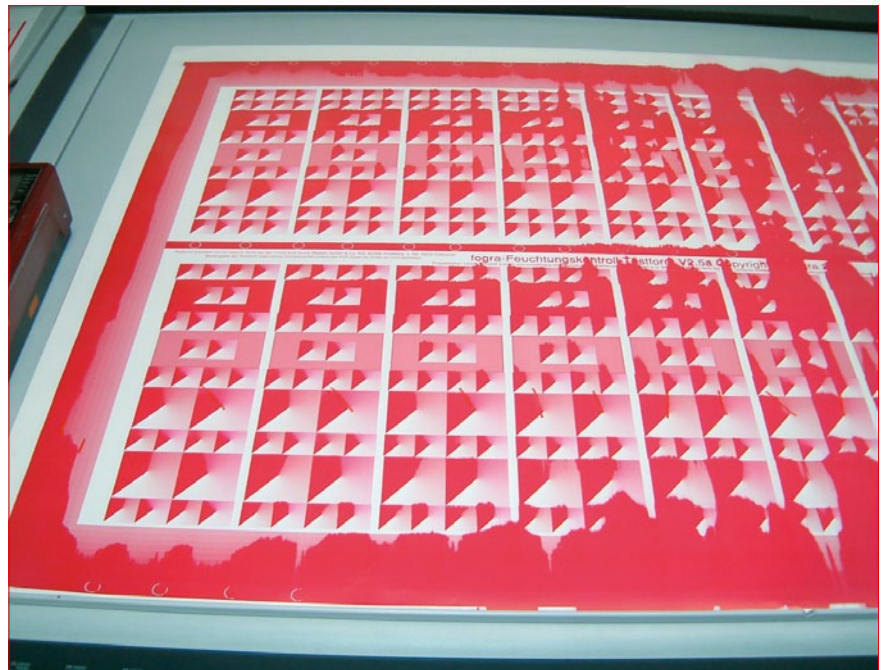
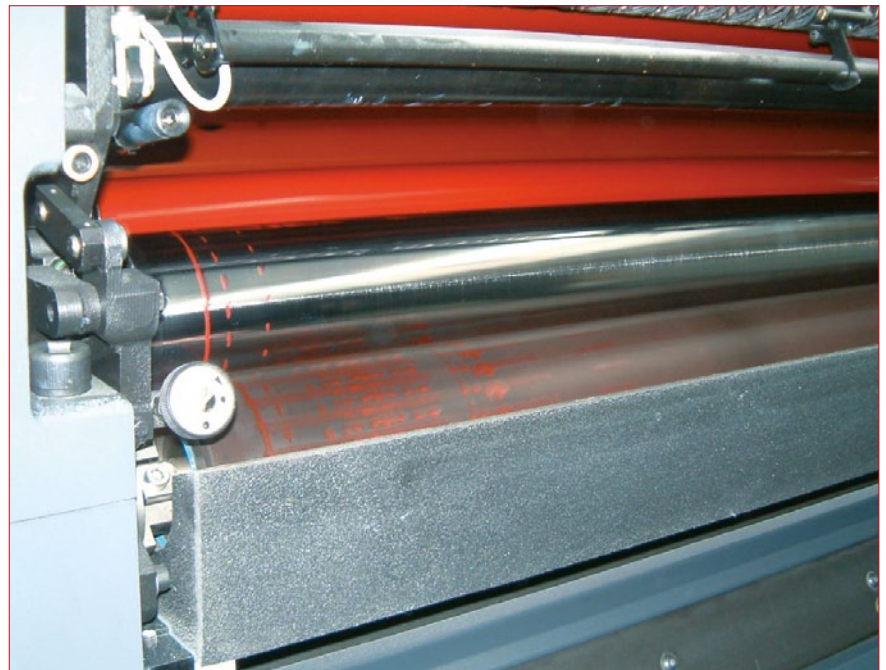

Fig. 5: Uneven toning with reduced fountain flow caused by the defective fountain unit (Fig. 6).
Fig. 6: Ink on chrome rollers in fountain unit after only 100 rotations.
- wrong adjustment and/or unsuitable roller material in the fountain unit (fig. 5 and fig. 6)